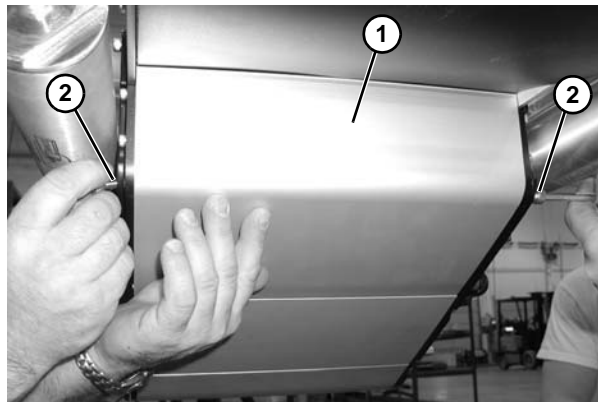

Figure 32
3. Temporarily support idler guard assembly (**Figure 32, item 1**). Remove screws (**Figure 32, item 2**).